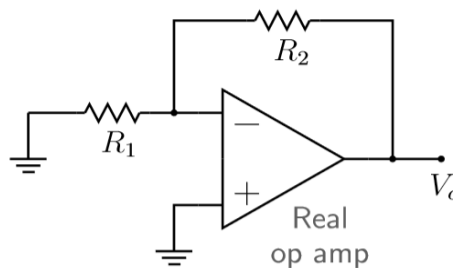

Figure 1: Offset voltage measurement
1. Wire up the circuit as shown in Figure 1. Let  $R_1=R_2=10k\Omega$ .